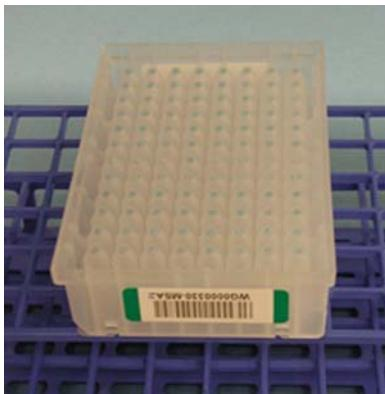

Figure 104 Uncovered MSA2 Plate Inverted for Air Drying
18. Leave the uncovered plate inverted on the tube rack for 1 hour at room temperature (22°C) to air dry the pellet (Figure 104).